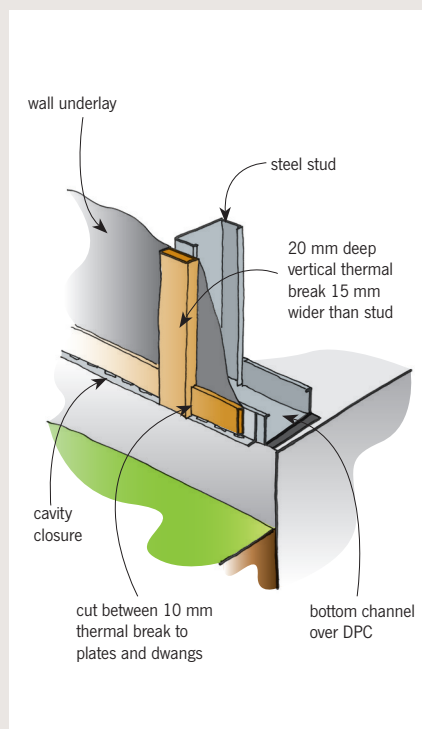

Figure 1: One option – base of drained cavity detail with thinner higher-performance thermal break fitted between verticals at bottom plate.
- strips of thermal break material fixed to the outside of the framing – when installed over the wall underlay, strips should be 15 mm wider than the framing for an R-value of 0.25 and 30 mm wider for a higher R-value (see Figure 1)